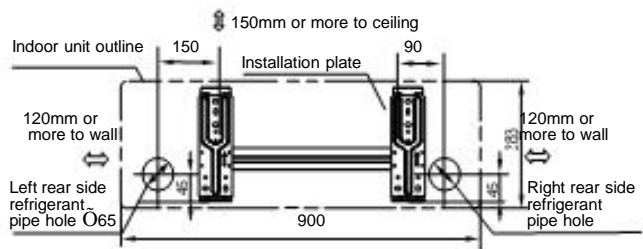

Fig.5
1. Determine hole positions according to the diagram detailed in Fig.5. Drill one (1) hole (2 1/2") slanting slightly to outdoor side.